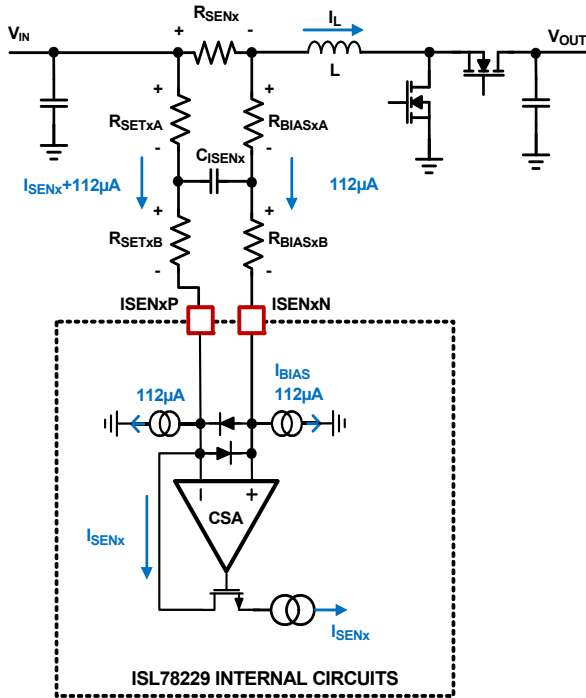

FIGURE 69. CURRENT SENSING BLOCK DIAGRAM
The ISL78229 peak current control architecture senses the inductor current continuously for fast response. A sense resistor is placed in series with the power inductor for each phase, and the ISL78229 Current Sense Amplifiers (CSA) continuously sense the respective inductor current as shown in Figure 69 on page 32 by sensing the voltage signal across the sense resistor R_{SENx} (where “x” indicates the specific phase number and same note applied throughout this document). The sensed current for each
active phase will be used for peak current mode control loop, phase current balance, individual phase cycle-by-cycle peak current limiting (OC1), individual phase overcurrent fault protection (OC2), input average Constant Current (CC) control and average overcurrent protection (OC_AVG), diode emulation, and phase drop control. The internal circuitry shown in Figure 69 represents a single phase. This circuitry is repeated for each phase.
The RC network between R_{SENx} and $I_{SENxP/N}$ pins as shown in Figure 69 is the recommended configuration. The I_{SENxP} pin should be connected to the positive potential of the R_{SEN_CHx} through resistor R_{SETx} , where in Figure 69 R_{SETx} is composed by R_{SETxA} plus R_{SETxB} . R_{SET} is used to set the current sense gain externally.
Because there is an $112\mu A$ bias current sinking to each of the I_{SENxP} and I_{SENxN} pins, R_{BIASx} with the same value to R_{SETx} should be placed between the I_{SENxN} pin to the low potential of the R_{SENx} , where in Figure 69 R_{BIASx} is composed by R_{BIASxA} plus R_{BIASxB} .
It is recommended to have $R_{SETxA} = R_{BIASxA}$ and $R_{SETxB} = R_{BIASxB}$, and insert a capacitor (C_{ISENx}) between them as shown in Figure 69. This will form a symmetric noise filter for the small current sense signals. The differential filtering time constant equals to $(R_{SETxA} + R_{BIASxA}) \cdot C_{ISENx}$. This time constant